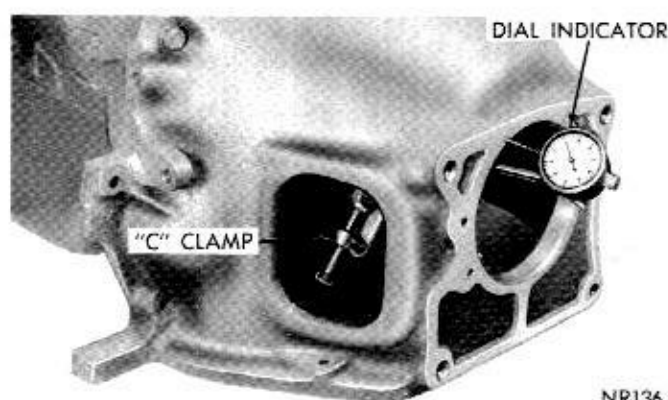

Fig. 14—Measuring Clutch Housing Face Squareness
(1) Relocate Dial Indicator (Fig. 14) and rotate fly-